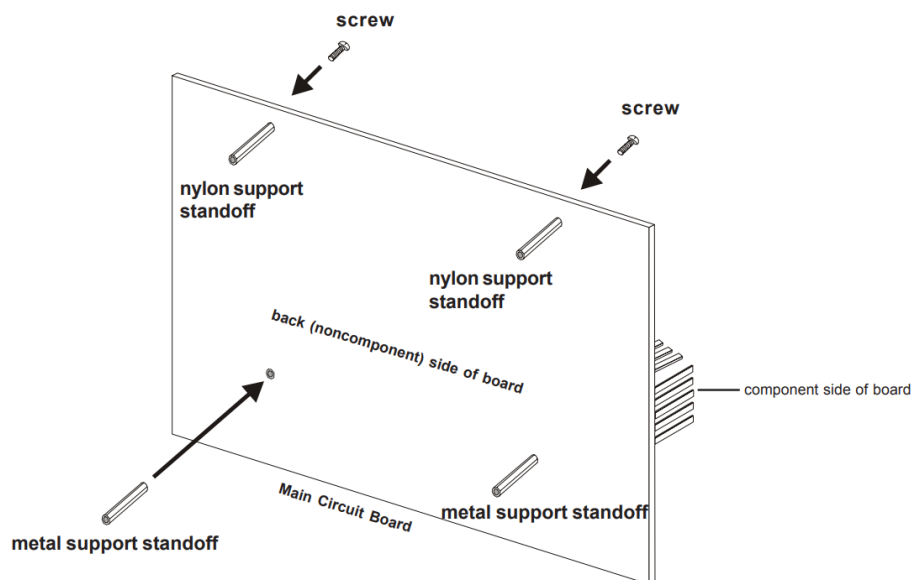

Figure 3: Support Standoff Installation on Main Circuit Boar
8. Install the four supplied support standoffs to the new main circuit board as illustrated in Figure 3 on page 2 of this document.